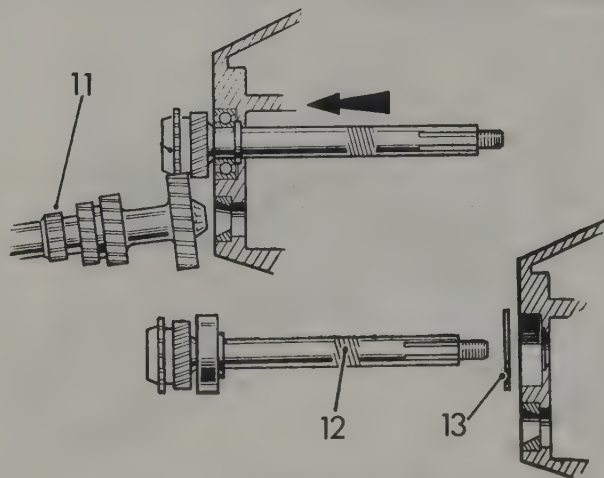

Fig. 6.15. Layshaft (11) and primary pinion (12) removal diagram (13) bearing baffle plate
- 23 Refer to Fig. 6.15, hold the layshaft and tap the primary pinion shaft rearwards until the layshaft can be withdrawn. Withdraw the primary pinion and the bearing baffle plate.